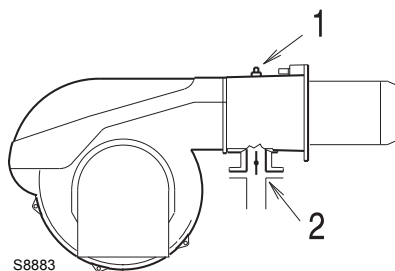

Fig. 39
Gas pressure measured at the test point 1)(Fig. 39), with:
Load loss at gas butterfly valve 2)(Fig. 39) with maximum opening: 90°.
- Subtract the combustion chamber pressure from the gas pressure measured at test point 1)(Fig. 39).
- Gas pressure at test point 1)(Fig. 39) = 8 mbar
To know the required gas pressure at test point 1)(Fig. 39), set the MAX output required from the burner operation:
- Read, on the right, column 1, the socket pressure 1)(Fig. 39).
pressure required at test point 1)(Fig. 39).